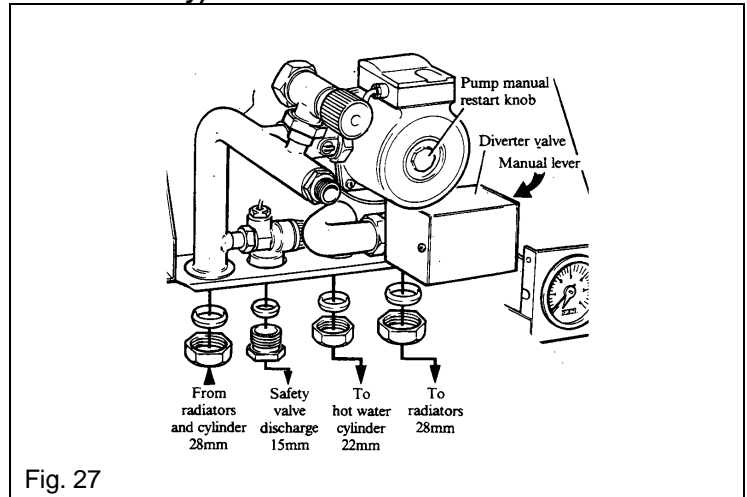

Fig. 27
Refer to Fig. 27 (expansion vessel, frame and control box omitted for clarity).
2. Make the connections as shown in Fig. 27.
The manual lever on the right hand side of the diverter valve, see Fig. 27, must be moved to the 'MAN OPEN' (top) position when filling, venting or draining the system.
5. The pump bearings and shaft rely on system water to provide lubrication. It is important therefore to ensure that the bearings have been properly vented and **that the pump is not run dry** otherwise damage may occur to the bearings. Unscrew the pump manual restart knob, see Fig. 27 and withdraw it to engage in the motor shaft. Rotate the knob and check that the motor shaft rotates freely. Apply a sideways pressure to the knob until a small amount of water becomes visible. The pump is now vented. After use the manual restart knob should be screwed back into its original position, finger tight. Take care not to allow any water to drip onto the control box or other electrics.
6. If a programmer is not to be fitted, the manual lever, see Fig. 27, on the right hand side of the diverter valve must be moved to the 'MAN OPEN' (top) position, ensure it is locked in position.